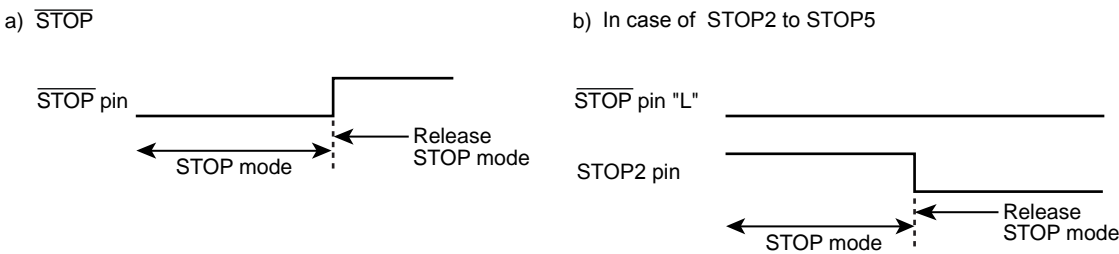

Figure 15-2 Priority of STOP pin and STOP2 to STOP5 pins
- Note 5: When the STOP mode is released by STOP2 to STOP5 pins, the level of $\overline{\text{STOP}}$ pin should hold "L" level (Figure 15-2).